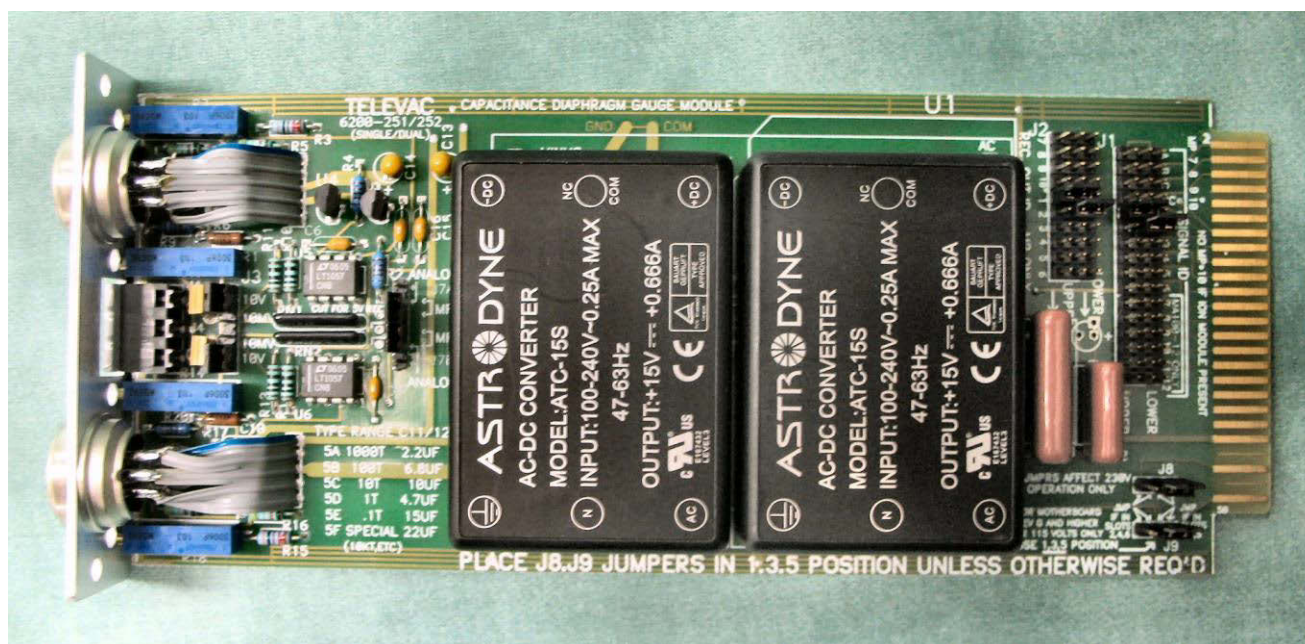

Fig. 9.6a - Capacitance Diaphragm Module
CAPACITANCE DIAPHRAGM MODULE - A CDG module is shown in Fig. 9.6a and 9.6b. This module is typical of all modules. The assignment of station identification numbers on a CDG module is accomplished by placing jumpers across the appropriate pins in the SIGNAL ID and the REC OUT ID sections. The upper CDG station has been named station #3 and the lower thermocouple station has been named station #4 as an example. Do not duplicate station # assignments with other modules. Also two (2) jumpers are placed in the "MP" positions of the ANALOG/MP section of the board.